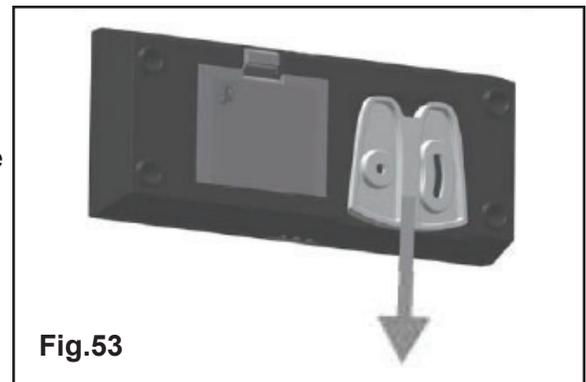

Fig.53
- Detach the adapter from the body of the remote control wall transmitter. (**Fig. 53**)